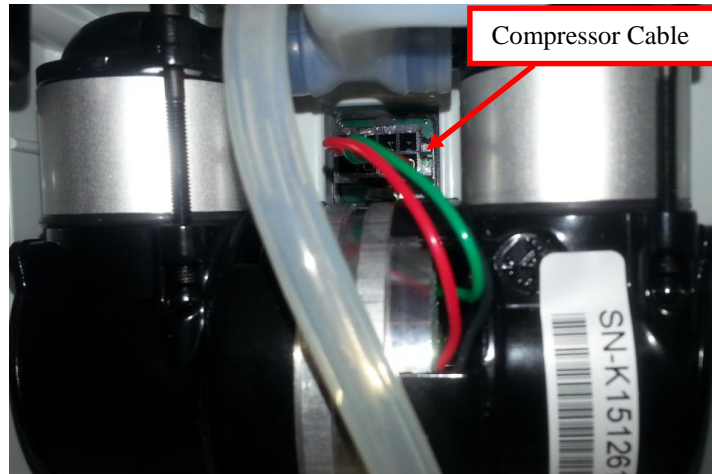

Figure 2: Detach compressor cable from motherboard
2. Disconnect the compressor cable from the motherboard using pliers to push down on the release clip while pulling on the cable housing (Figure 2). *Do not pull on the compressor wires.*